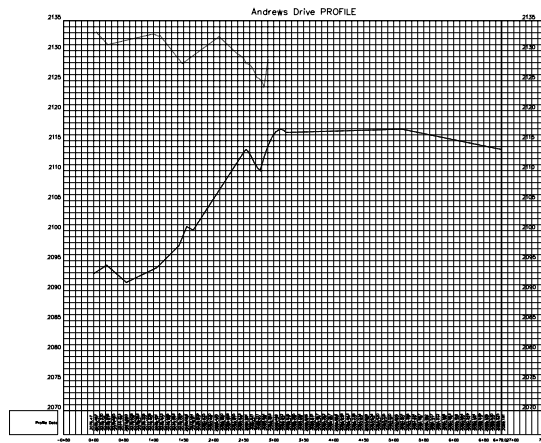

Figure 6-57 The Andrews Drive profile superimposed on the Street 2 profile
5. Choose the **OK** button; the **Superimpose Profile Options** dialog box is closed and the profile information of the **Street 2** profile is superimposed over the **Andrews Drive** profile view as shown in Figure 6-57.